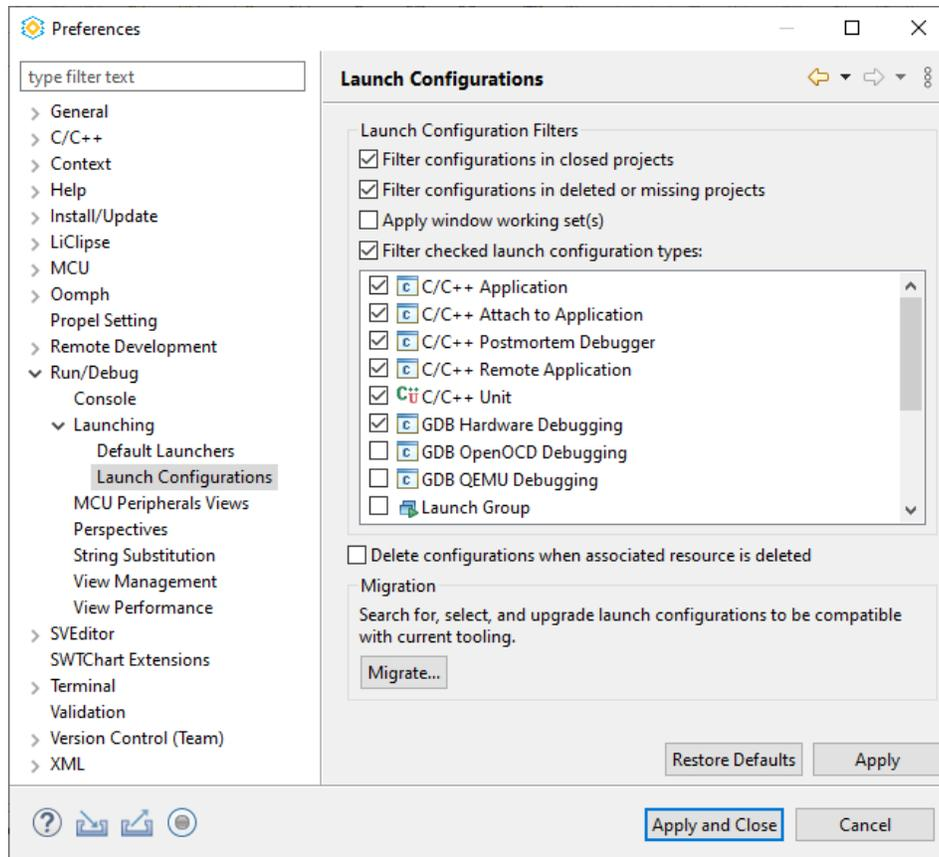

Figure 3.39. Launch Configurations
**Note:** By default, **C/C++ Application**, **C/C++ Attach to Application**, **C/C++ Postmortem Debugger**, **C/C++ Remote Application**, **C/C++ Unit**, **GDB Hardware Debugging** are hidden on the Debug Configurations page. If you want to use them, you can disable the **Filter checked launch configuration types** (Figure 3.39).